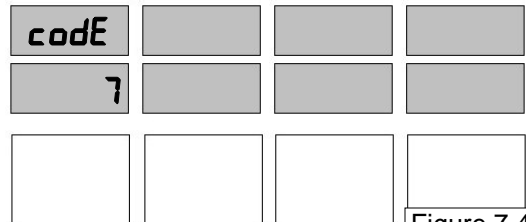

Figure 7.4
6. Once the **ENTER** button has been pressed, the Blender option appears in the main display. The default setting is for a Blender. See Figure 7.4.